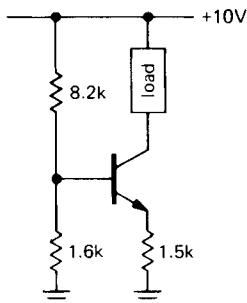

Figure 2.79
(2) Consider the current source in Figure 2.79. (a) What is I_{load} ? What is the output compliance? Assume V_{BE} is 0.6 volt. (b) If h_{FE} varies from 50 to 100 for collector voltages within the output compliance range, how much will the output current vary? (There are two effects here.) (c) If V_{BE} varies according to $\Delta V_{BE} = -0.0001 \Delta V_{CE}$ (Early effect), how much will the load current vary over the compliance range? (d) What is the temperature coefficient of output current assuming that h_{FE} does not vary with temperature? What is the temperature coefficient of output current assuming that h_{FE} increases from its nominal value of 100 by $0.4\%/\text{ }^{\circ}\text{C}$?
(3) Design a common-emitter npn amplifier with voltage gain of 15, V_{CC} of +15 volts, and I_C of 0.5mA. Bias the collector at $0.5V_{CC}$, and put the low-frequency 3dB point at 100Hz.
(4) Bootstrap the circuit in the preceding problem in order to raise the input impedance. Choose the rolloff of the bootstrap appropriately.
(5) Design a dc-coupled differential amplifier with voltage gain of 50 (to a single-ended output) for input signals near ground, supply voltages of ± 15 volts, and quiescent currents of 0.1mA in each transistor. Use a current source in the emitter and an emitter follower output stage.
(6) In this problem you will ultimately design an amplifier whose gain is controlled by an externally applied voltage (in Chapter 3 you will see how to do the same thing with FETs). (a) Begin by designing a long-tailed pair differential amplifier with emitter current source and no emitter resistors (undegenerated). Use ± 15 volt supplies. Set I_C (each transistor) at 1mA, and use $R_C = 1.0\text{k}$. Calculate the voltage gain from a single-ended input (other input grounded) to a single-ended output. (b) Now modify the circuit so that an externally applied voltage controls the emitter current source. Give an approximate